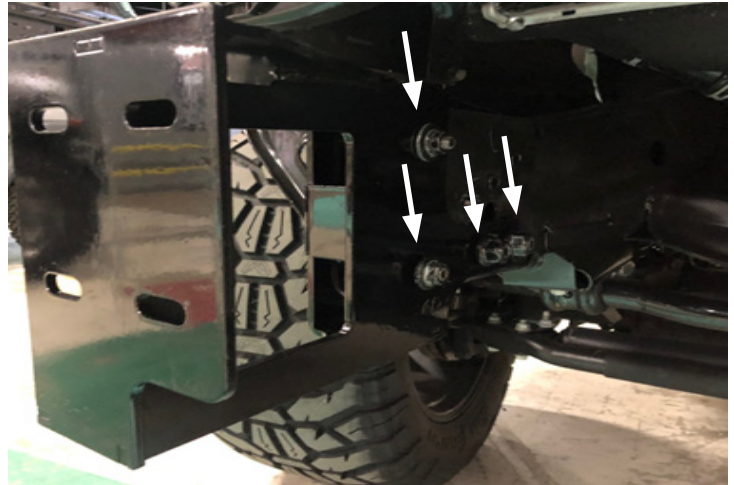

Figure 21
20. Take the two mounting brackets (21974 and 21975) and mount them to the frame rails using the OEM hardware removed during steps 7 and 9. (Figure 21)